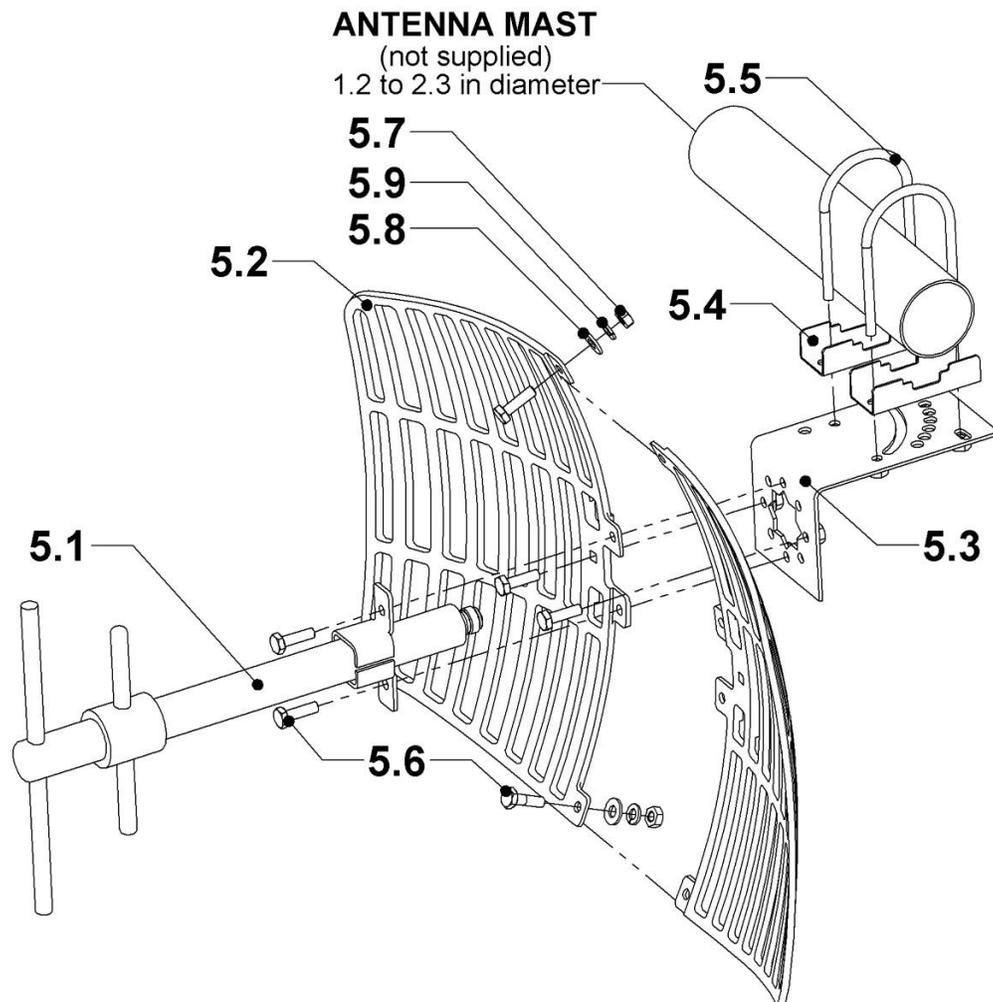

Figure 1 – Antenna Assembly
2. Mount the antenna feed (5.1) through the parabolic antenna dish (5.2) into the mounting bracket (5.3) so that the feed is oriented parallel to the slots in the antenna as shown in Figure 1. Affix with four bolts using a washer, lock washer and nut on the back side of mounting bracket.
4. Antenna is designed to mount on a 1.2 - 2.3 inch diameter mast. When attaching antenna assembly (5) to mast ensure mast is between U-Bolts and Bracket Clamps as shown in Figure 1.